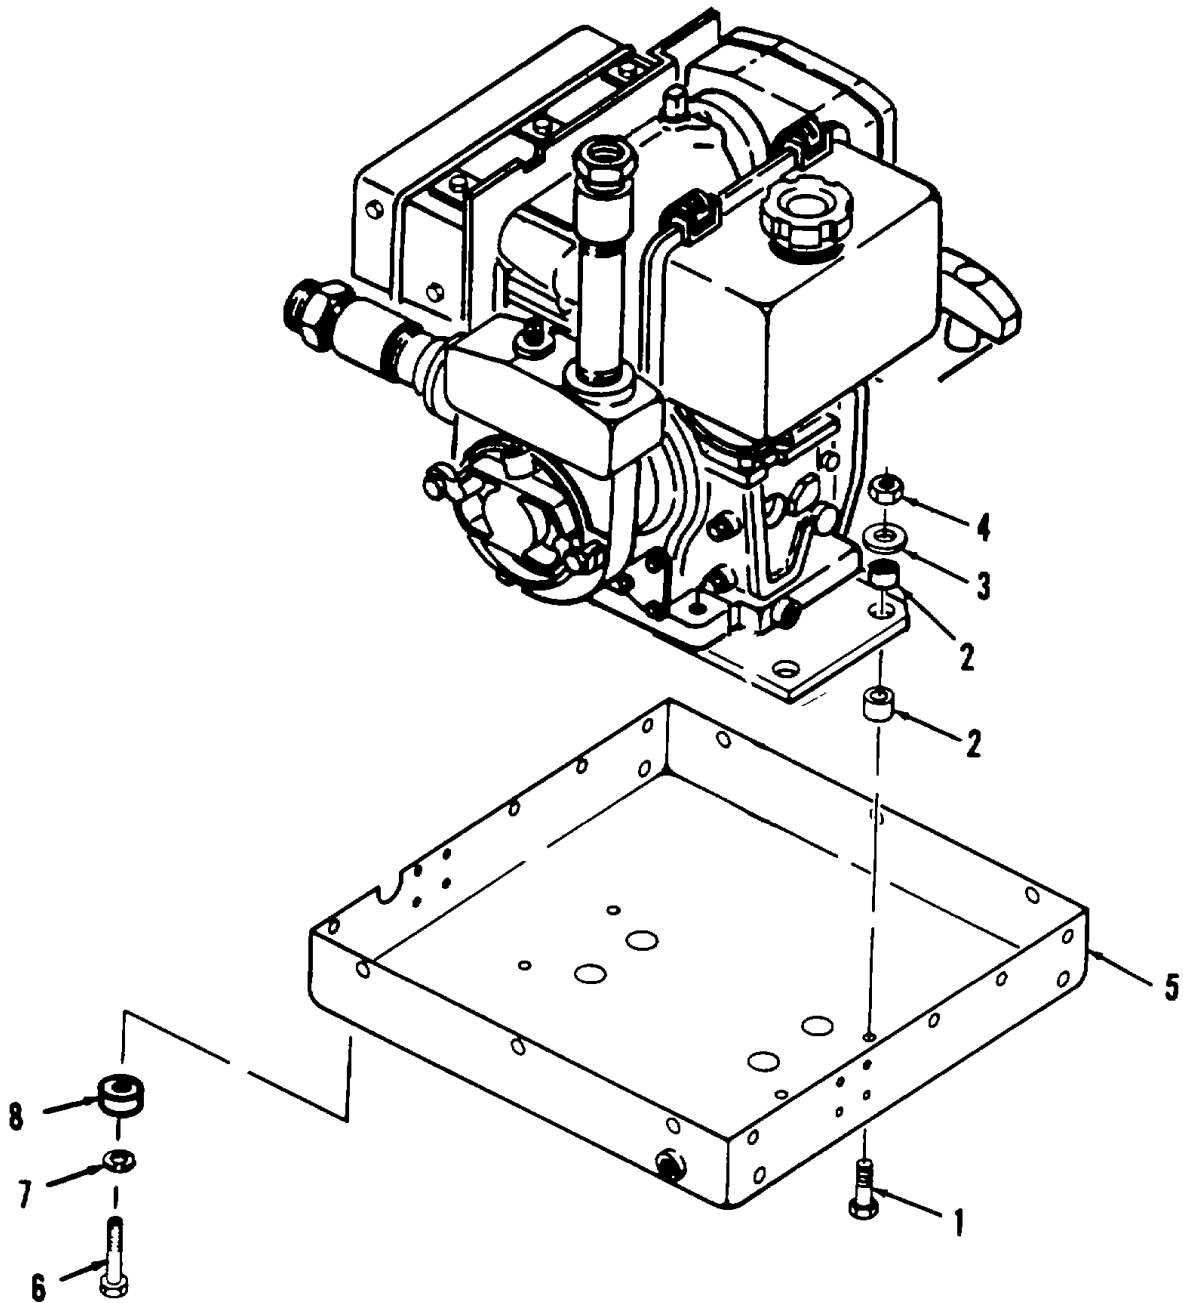

Figure 4-16. Bottom Pan Frame Repair and Replacement.
a. Removal (Refer to Figure 4-16).
(1) Remove four screws (1), eight shock mounts (2), four flat washers (3), and four lock nuts (4).
(2) Remove bottom pan frame (5).
(3) Remove four screws (13), four flat washers (14), and four bumpers (15) from bottom pan frame